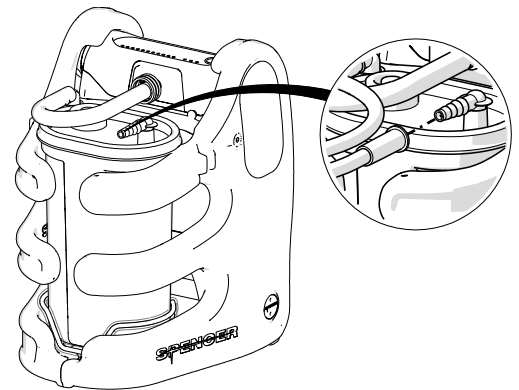

Fig. 14
2. Connect the tube between canister and connector (fig.14).